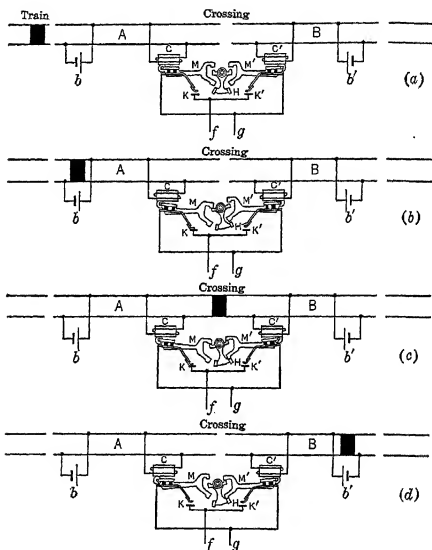

FIG. 153. Successive positions of interlocking relay during the operation of a railroad crossing signal.
sign and a pair of alternately flashing lamps when a train is approaching from either direction. The series of diagrams in Fig. 153 shows the different stages in the operation of these signals. The insulated track sections *A* and *B* extend on either side of the crossing to the points where entering trains are to start the signals. When both sections *A* and *B* are clear, the batteries *b* and *b'* send currents through the rails and through the coils *c* and *c'* thus holding up the arms *M* and *M'* and keeping both switches *K* and *K'* open as shown in (*a*). When a train enters section *A* from the West, Fig. 153 (*b*), the current from battery *b* which would normally flow through coil *c* goes through the wheels and axles of the train allowing the electromagnet to become so weak that arm *M* drops down, closing the contact points at *K* and completing the circuit between *f*
and B, Fig. 153 (c), both electromagnets  $c$  and  $c'$  are weakened releasing arm  $M'$  as well as  $M$ . But note that due to the position of the pawl  $H$ ,  $M'$  cannot fall far enough to
close switch  $K'$ , so that when the last car of the train passes the crossing, electromagnet  $c$  is again energized drawing up arm  $M$  and opening points  $K$ . This opens circuit  $f-g$  and the signals cease to operate. Fig. 153 ( $d$ ) shows how the pawl  $H$  continues to hold  $M'$  from closing  $K'$  until the train passes out of section  $B$  when electromagnet  $c'$  is again energized bringing the relay back to the condition shown in Fig. 153 ( $a$ ). If the little mechanism  $H$  were not present it is easy to see that the signals would keep on operating for some time after the train passed the crossing.
**Prob. 22-7.** Draw 4 sketches similar to those in Fig. 153 showing the sequence of operations in the interlocking relay when a train approaches the crossing from the East.